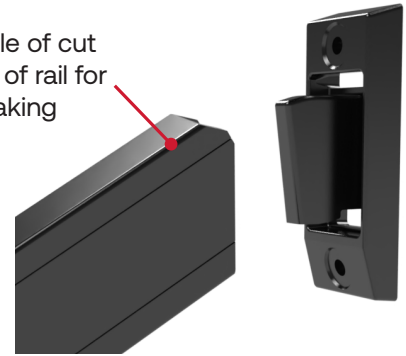

Fig. 8
1. Measure the angle that the panel will rake to and cut that from the rail. The cutouts will be the opposite at either end of the rail. Also measure a 7mm cutout from the long edge of the rail, this will keep the end of the rail from protruding. *Fig. 8*